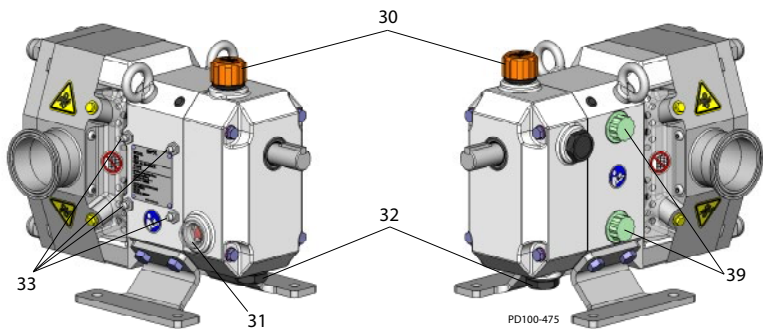

Figure 26 - Lubrication Points
Table 1: Callout table for Figure 26
**CAUTION:** Each pump is shipped from the factory with the gearbox sealed. Prior to operation, check the oil level and replace the uppermost oil drain plug with the supplied oil fill breather, at the location of item 30 in Figure 26.
Excess grease will accumulate in the gear case. Remove it through the cleanout hole covered with a plastic plug (Figure 26, item D).